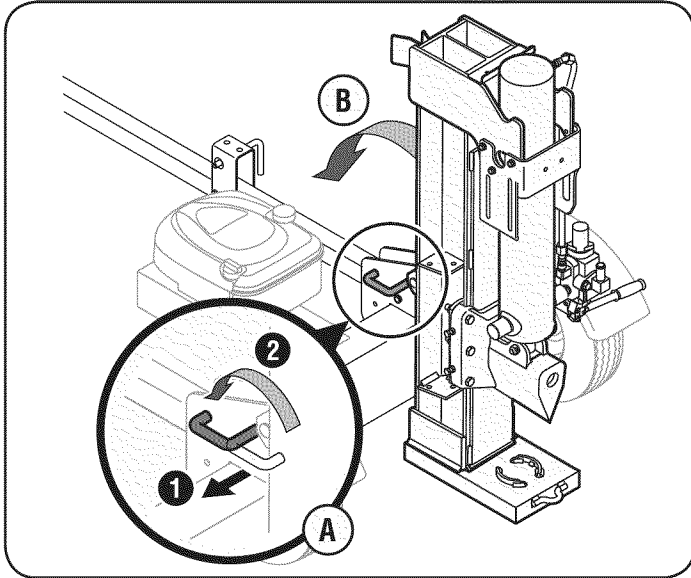

Figure 3
12. Pull out the vertical beam lock, rotate it back, and pivot the beam to the horizontal position until it locks being sure to avoid any possible pinch points. See Figure 3.